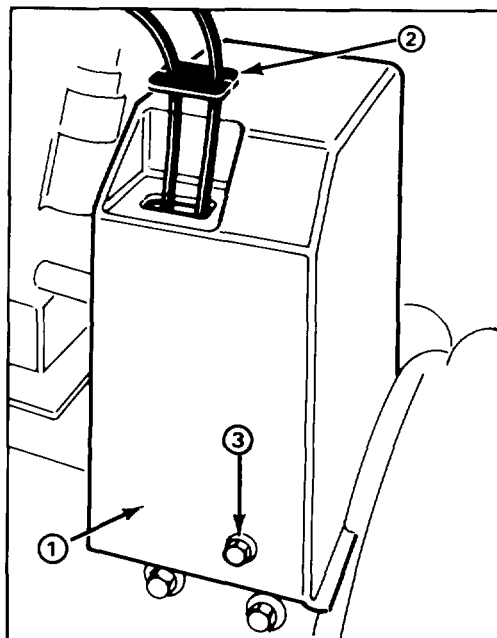

Figure 24
1. Remove (3) flange head capscrews securing belt cover to engine frame and slide cover up cables (Fig. 24).